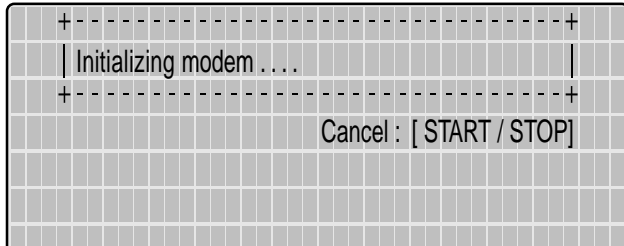

Figure 5-15. Screen display after activation of  and
- Use the key combination  and  to display the screen for receiving ECGs (Figure 5-15). The connected modem is automatically initialized. The procedure can be aborted with  .